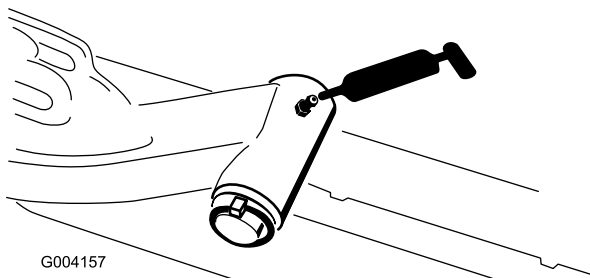

Figure 50
- Lift-arm-pivot shaft (1 each) (Figure 50)